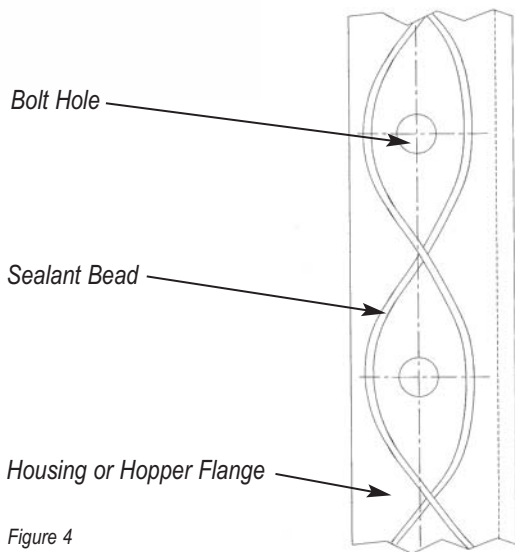

Figure 4
4. Caulk all connecting surfaces using the caulking compound supplied. On standard units, this is a butyl caulk. Silicone caulk is supplied on units rated to 400°F. See Figure 4 for the method of applying caulk to a housing flange.
CAUTION: Particular caution must be exercised when sealing the internal connection between the tube sheets in adjacent modules. The tube sheet is the horizontal plate through which the filters are inserted and which forms the barrier between the clean and dirty air sides of the collector. The flange of the tube sheet between modules is provided with a double row of bolt holes. Each row of holes shall be caulked as shown in Figure 4. It is only necessary to apply caulk to one face of each joint. Apply the caulk liberally to ensure an effective seal.